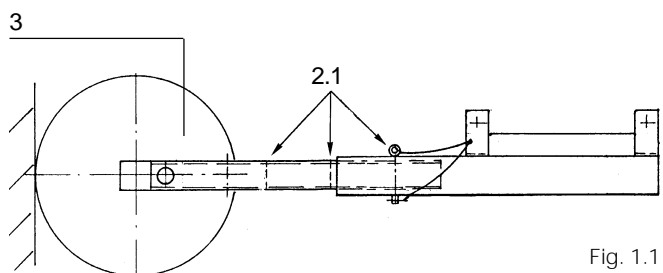
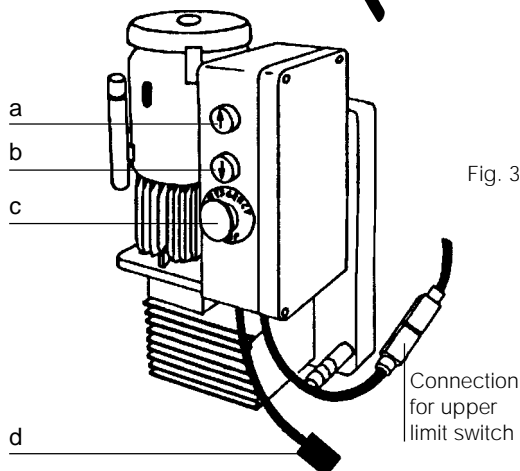

Fig. 1.1
Fig. 3
- a. Fit the TIRAK hoist (4) with the motor turned upwards, to the stirrup (1) and base frame (2) and the overload safety device (13) connecting to the control box of the TIRAK hoist.
- b. Stabilise the equipment by fitting the roller assembly (3) into the base frame (2). Lock it into position using the clip pin (2.1). The base frame (3) has three holes, to allow adjustment of the distance between the SOLSIT and the facade (Fig. 1.1).
- c. Fix the frame supports (6) for the buckets.
- Fit the 2 buckets (5).
- d. Fit the BLOCSTOP BSO (7) to the stirrup (1).
- e. Fix the upper limit switch (8) to the top of the mast (1).
- Connect to the control box of the TIRAK hoist (Fig. 3).
The overload safety device (13) is activated when the SOLSIT is overloaded. In this case, the UP movement is stopped and the indicator lamp (a) on the SOLSIT control box indicates the overload (Fig. 3). To continue working, decrease the load in the SOLSIT. The adjustment of the overload safety device is lead sealed in the factory. For the setting and control, call the After Sales Service.